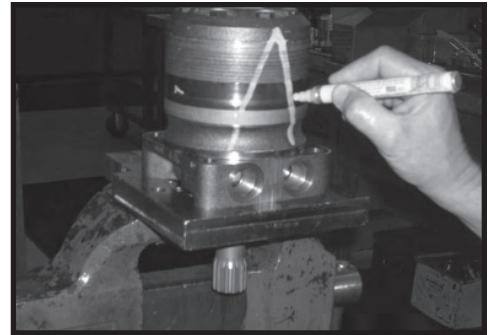

Figure 3
1. Place the Torqmotor™ in a soft jawed vice, with coupling shaft (12) pointed down and the vise jaws clamping firmly on the sides of the housing (18) mounting flange or port bosses. Remove manifold port O-Rings (18A) if applicable.
2. Scribe an alignment mark down and across the Torqmotor™ components from end cover (2) to housing (18) to facilitate reassembly orientation where required. Loosen two shuttle or relief valve plugs (21) for disassembly later if included in end cover. 3/16 or 3/8 inch Allen wrench or 1 inch hex socket required. SEE FIGURES 3 & 4.